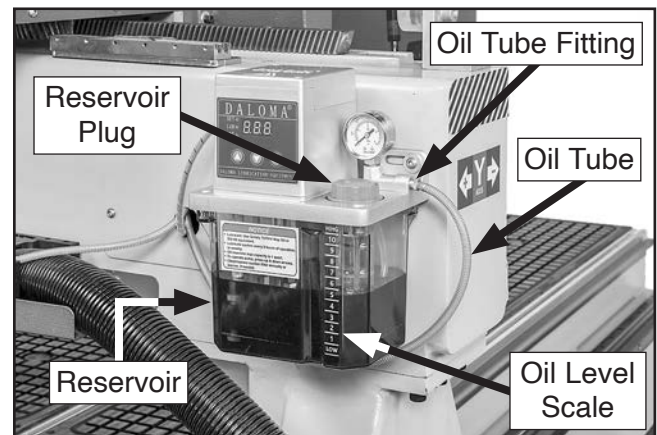

Figure 52. Example of oiler system components.
26. Connect oil tube fitting from gantry to oiler system reservoir and secure (see **Figure 52**).
27. Fill reservoir with 1 quart of ISO 68 machine oil (see **Figure 52**).